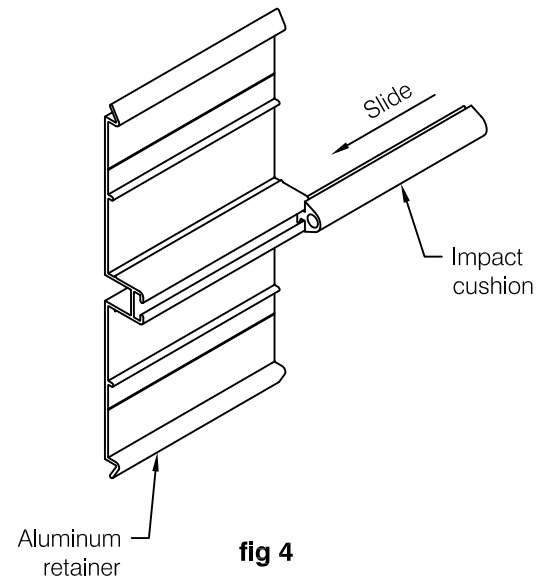

fig 4
- Step 5:** Install impact cushion by sliding it into opening provided in aluminum retainer, see **fig 4**.